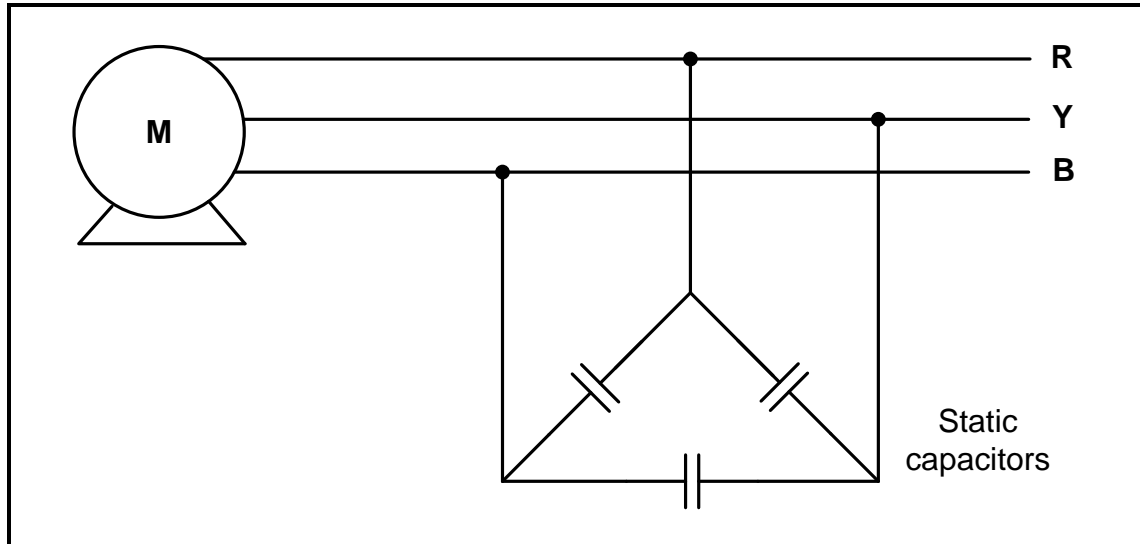

FIGURE 3.5: DIAGRAMMATIC REPRESENTATION OF POWER-FACTOR CORRECTION CAPACITORS IN A THREE-PHASE SYSTEM
- 3.5 FIGURE 3.5 below is a diagrammatic representation of power-factor correction capacitors in a three-phase system. Answer the questions that follow.